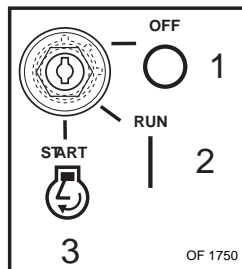

Figure 6
1. Insert ignition key (Figure 6).